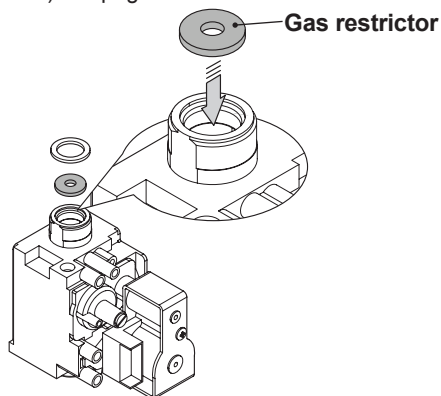

Fig. 9.2
- Carry out gas conversion by correctly replacing the gas restrictor (Fig. 9.2) and ignition/detection electrode, referring to section "Technical data DINA 25C (M280C.2025 SM)" on pag. 24, "Technical data DINA 30C (M280C.2530 SM)" on pag. 28 and "Technical data DINA 35C (M280C.3035 SM)" on pag. 32.